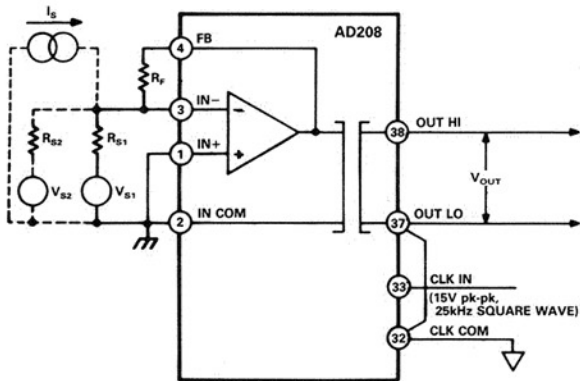

Figure 32. Summing or Current Input Configuration
**Summing or Current Input Configuration.** Figure 32 shows how the AD208 can accommodate current inputs or sum currents or voltages.
The circuit of Figure 32 can also be used when the input signal is larger than the  $\pm 5$  V input range of the isolator. For example, suppose that in Figure 32 only  $V_{S1}$ ,  $R_{S1}$  and  $R_F$  are connected to the feedback, input and common terminals as shown by the solid lines in Figure 32. Now, a  $V_{S1}$  with a  $\pm 50$  V span can be accommodated with  $R_F=20$  kΩ and  $R_{S1} = 200$  kΩ.